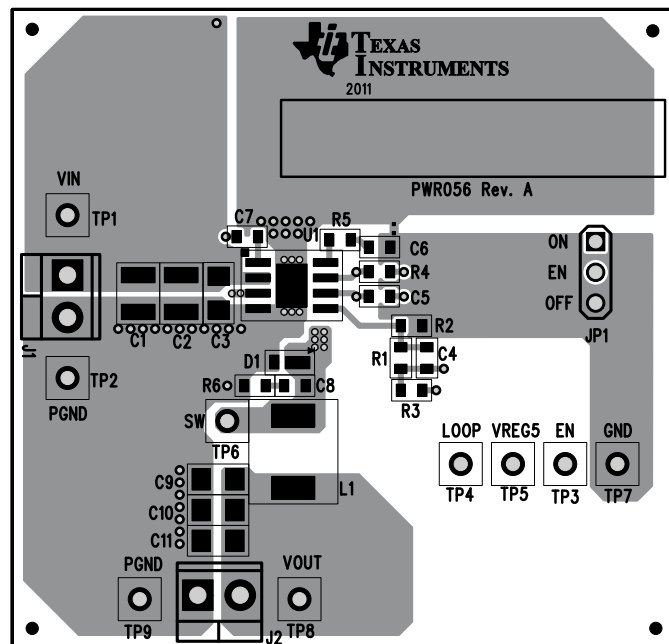
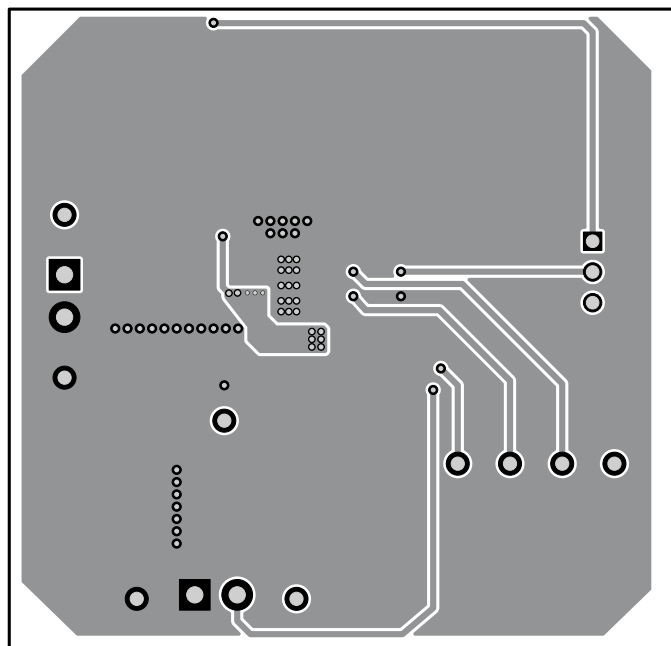

Figure 14. Top Assembly
Figure 18. Bottom Layer
The board layout for the TPS54239EEVM-056 is shown in Figure 14 through Figure 18. The top layer contains the main power traces for VIN, VO, and ground. Also on the top layer are connections for the pins of the TPS54239E and a large area filled with ground. Many of the signal traces also are located on the top side. The input decoupling capacitors are located as close to the IC as possible. The input and output connectors, test points, and all of the components are located on the top side. An analog ground (GND) area is provided on the top side. Analog ground (GND) and power ground (PGND) are connected at a single point on the top layer near C6. The two internal layers are completely dedicated to power ground planes. The bottom layer is primarily power ground. A copper pour area on the bottom layer is used to connect the switching node (SW) to the output inductor and the boost capacitor. Traces also connect enable control jumper, EN, VREG5, and LOOP test points, and the feedback trace from VOUT to the voltage setpoint divider network.